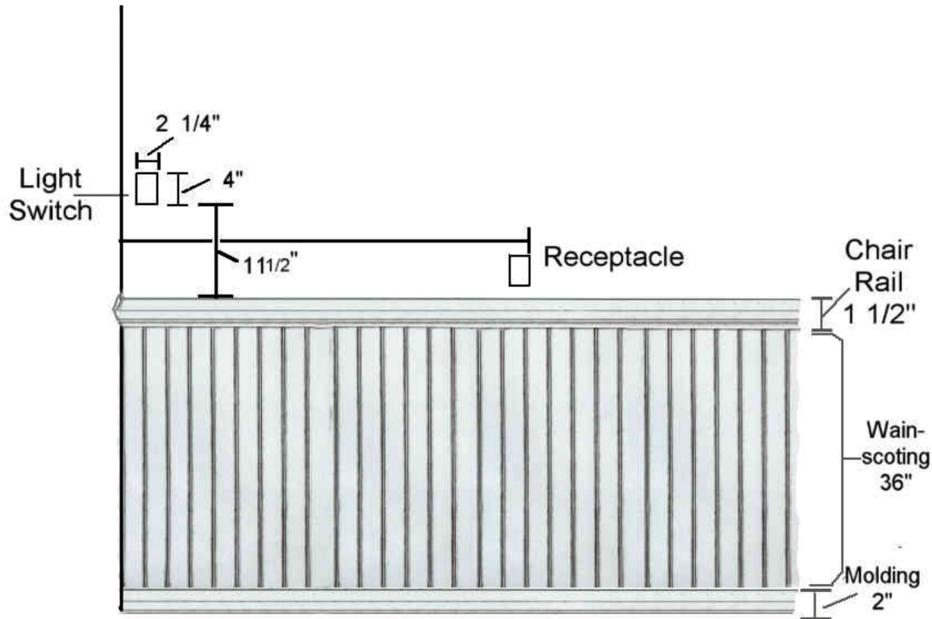

Figure 1: Residential wall with wainscoting and chair rail
The drawing in Figure 1 shows a light switch and receptacle installed on a wall that has wainscoting, baseboard moulding and a chair rail. Each panel of wainscoting measures 3 inches by 36 inches. The baseboard moulding is 2 inches high and the chair rail is 1 1/2 inches high. The light switch and receptacle measure 2 1/4 inches by 4 inches each. Questions 18 – 20 refer to Figure 1.
d) 11 feet</p> <p>19. In Figure 1, what is the height of the wall from the floor to the bottom of the light switch?</p> <p>a) 51 inches
d) 51 inches</p> | <p>20. You have been asked to install a receptacle on a wall similar to the one in Figure 1. The receptacle is to be installed above the chair rail, so that the right side of the receptacle is 7' 3" from the left side of the wall. If the wainscoting panels are 3 inches wide, how many panels would be to the left of the receptacle?</p> <p>a) 87 panels